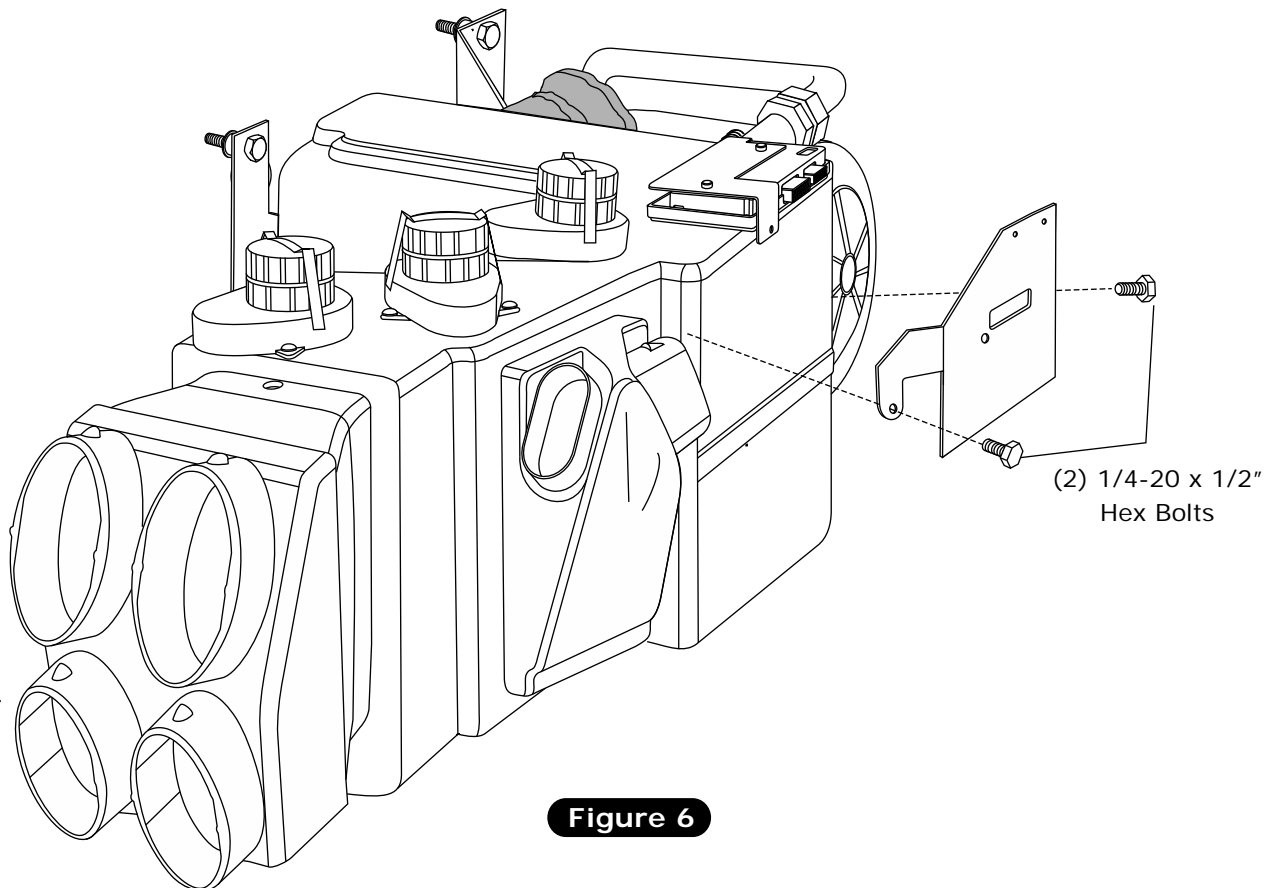

Figure 6
4. Install front mounting bracket on evaporator using (2) 1/4-20 x 1/2" hex bolts and tighten as shown in Figure 6, below.